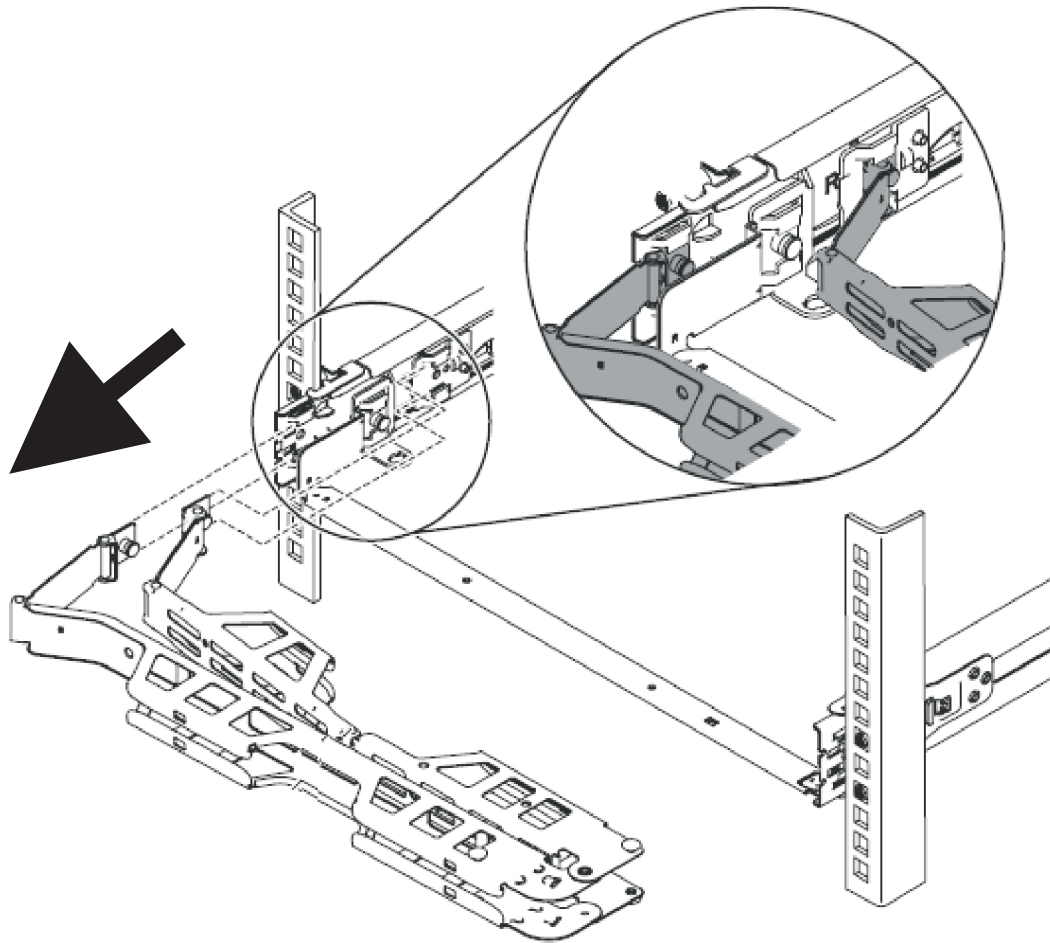

Figure 20. Removing the cable-management arm
- a. Remove the cable-management arm by pulling out both cable-management-arm pins while sliding the tabs out of the mounting location, as shown in Figure 20 on page 33.